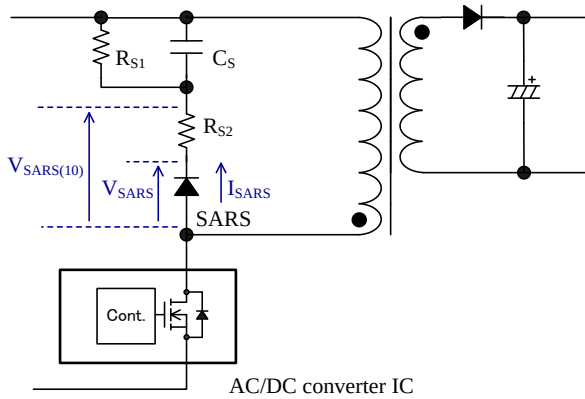
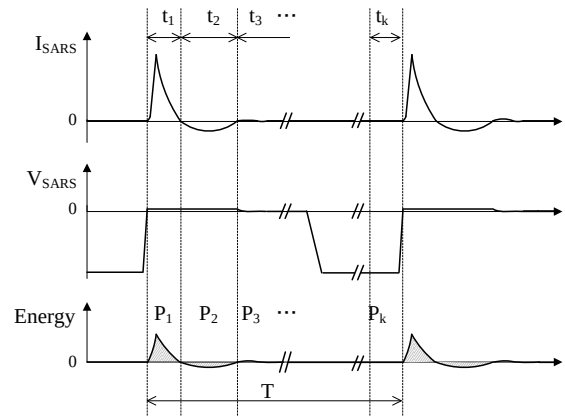

Figure 6-1 Typical application
Figure 6-2 SARS current
Figure 6-1 shows typical application using SARS. Figure 6-2 shows the operating waveforms of SARS.
- 2) The each average energy ($P_1, P_2 \dots P_k$) is measured at period of each polarity of $V_{SARS} \times I_{SARS}$ ($t_1, t_2, \dots t_k$) as shown in Figure 6-1 by the automatic measurement function of the oscilloscope.
- 3) The power dissipation of SARS, P_{SARS} , is calculated by Equation (1).